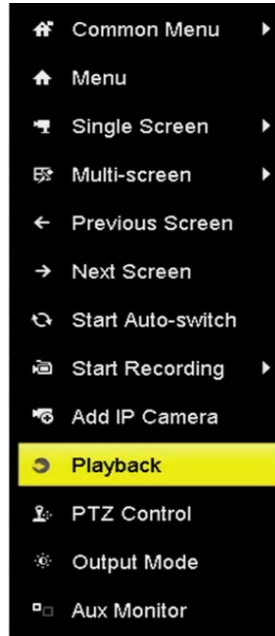

Figure 96 Right-Click Menu Under Live View
2. Right click a channel in Live View mode and select Playback from the menu (Figure 96).